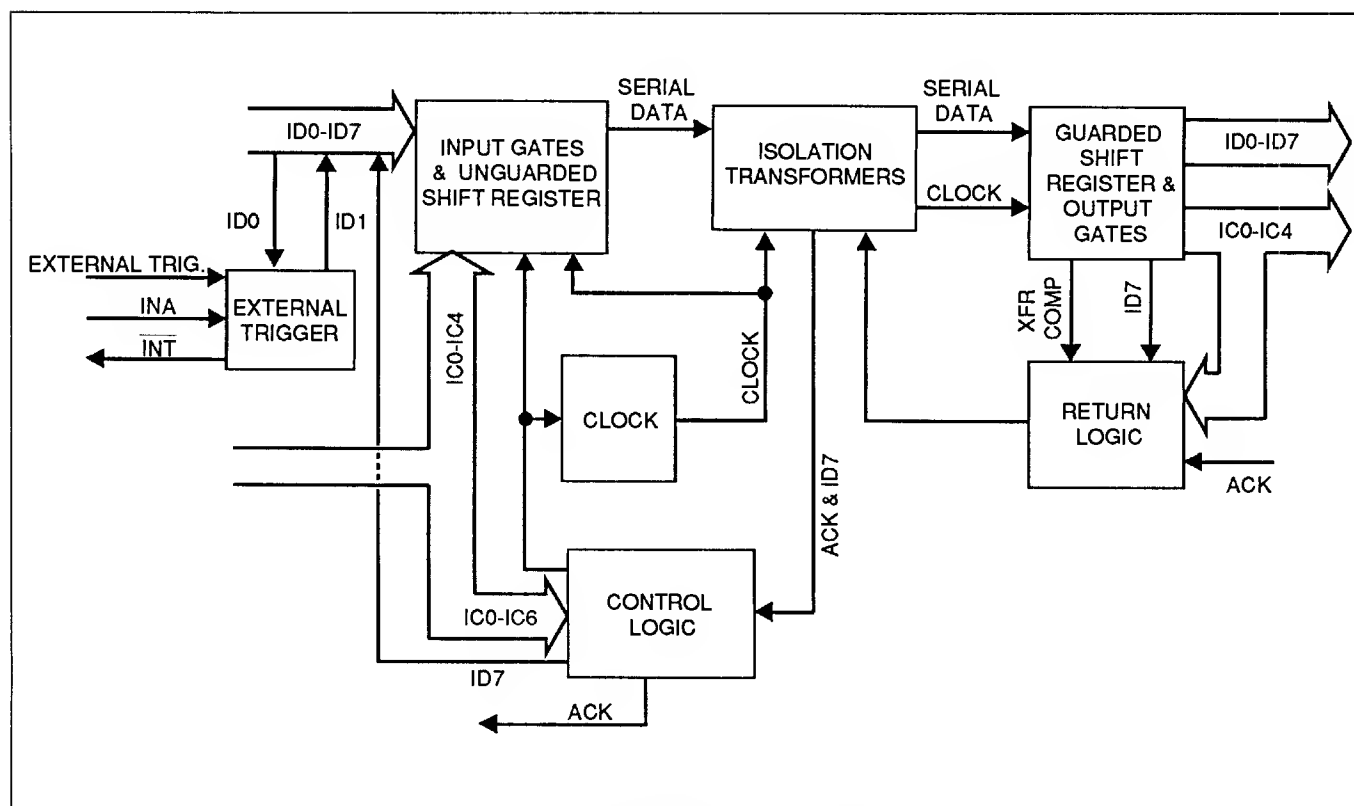

Figure 608-2. Isolator Block Diagram
The Isolator accepts parallel data and address bytes, shifts them to serial format for transfer across isolation transformers, and converts them back to parallel format. Seven address (IC) and eight data (ID) lines are used. Lines IC5 and IC6 are always low. The Controller can send data to any addressed module; the A/D Converter will be the only analog module that sends data back to the Controller (bit serial data stream on ID7). Refer to the Isolator Schematic (Figure 608-3) and the Functional Block Diagram (Figure 608-2) for the following circuit descriptions.